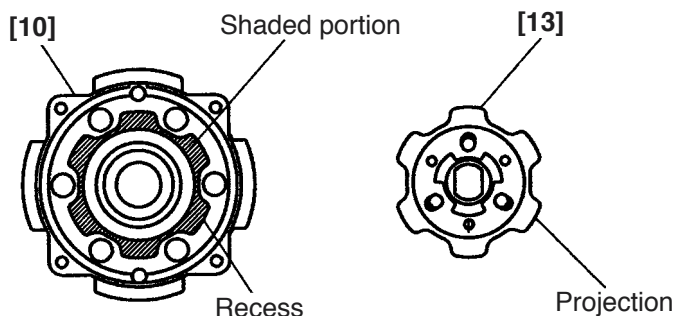

Fig. 6
- ① Apply grease approx. 1.2 g (Hitachi Motor Grease No. 29) to the shaded portion in the Front Case [10] (See Fig. 6).
- ② When installing the Lock Ring [13] into the Front Case [10], assemble so that the projections on the Lock Ring [13] engage with the recesses in the Front Case [10]. Make sure that the flat plane of Lock Ring [13] faces the Front Case [10] (see Fig. 6).